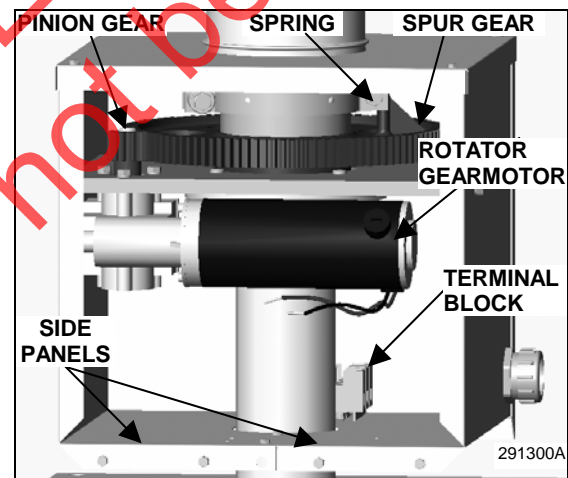

Figure 4-2. Rotator Assembly Interior
(d). Tighten the cross bolt with the spring one or two turns (see *Figure 4-2*). DO NOT tighten or loosen the cross bolt without the spring. Attach the scale to the horn and pull on the scale to rotate the horn. If the scale does not indicate between 25 and 30 pounds (11 and 13kg.), repeat this step until the scale indicates the proper force.
2. Disconnect the three wires from the terminal block (TB5) inside the rotator housing and begin feeding wires up into the siren shaft (see Figure 4-2).
1. Remove the two rotator housing panels (see Figure 4-2).